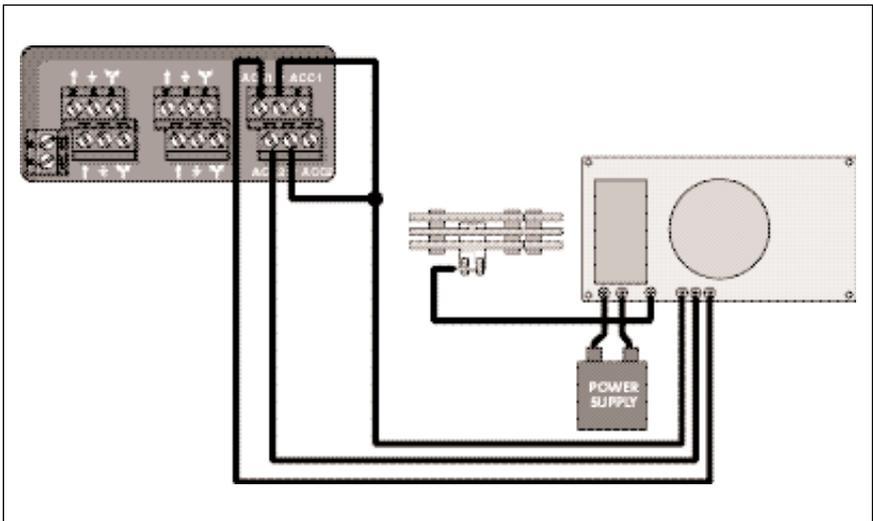

Figure 7. SC-2 connections
Five wires (not included) are needed to connect your bridge to the SC-2. We recommend using 22-gauge wire. Refer to Figure 7.
3. Attach a wire to the Common/Ground terminal on the bridge and connect it to the two COMM (common) positions on the SC-2 as illustrated in Figure 7.